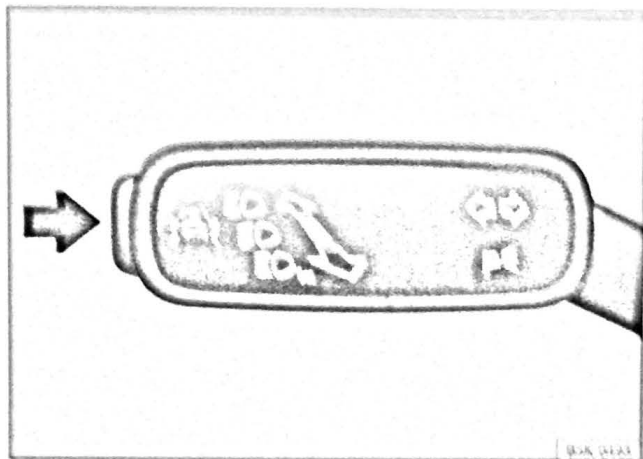

Fig. 18 On the turn signal and main beam lever; button for driver assist systems
- Press the button ⇒ Fig. 18 in the direction of the arrow to open the **Assist systems** menu.